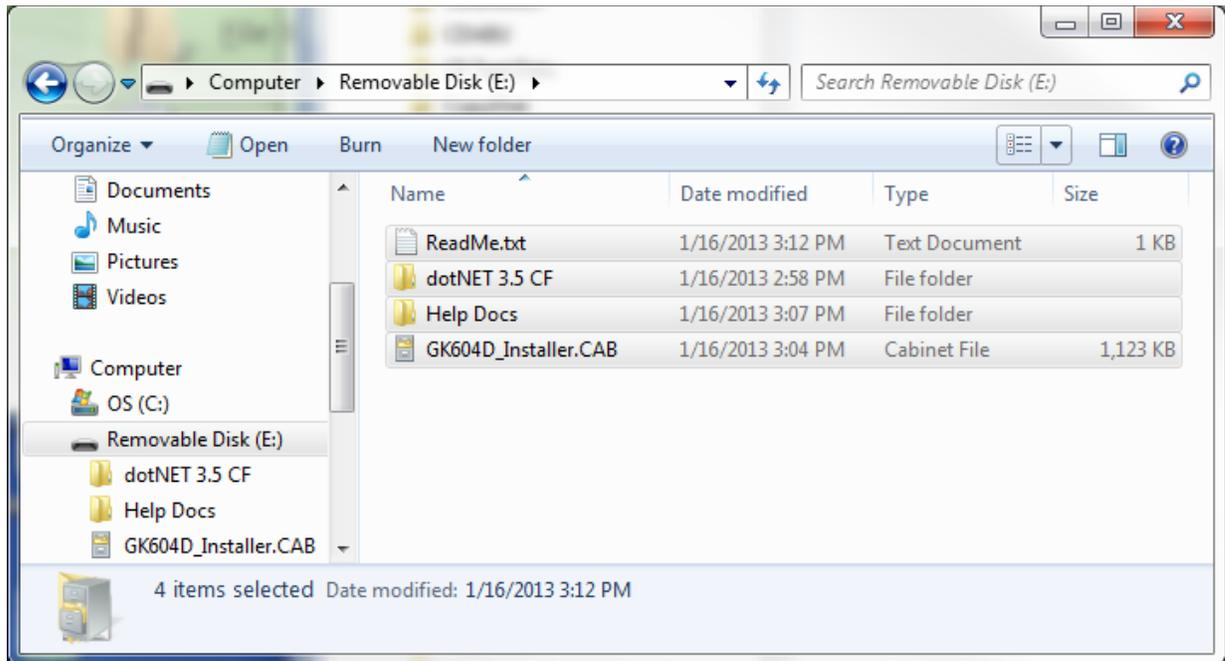

Figure 23 - Installation Folder Contents
- 3) Unzip the GK-604D Installer (downloaded from GEOKON’s website), open a Windows Explorer window, and then navigate to the root folder of the Installation folder (Figure 23).
If the application fails to launch and the message, “This application requires a newer version of the Microsoft .NET Compact Framework than the version installed on this device”, is displayed then the .NET Compact framework that is included in the installer “Zip” file should be installed. The .NET Compact Framework installer is called “NETCFv35.wm.arm4i.cab” and is located in a folder called “dotNET 3.5 CF” (see Figure 23). Installation is very similar to installing the GK-604D IRA.